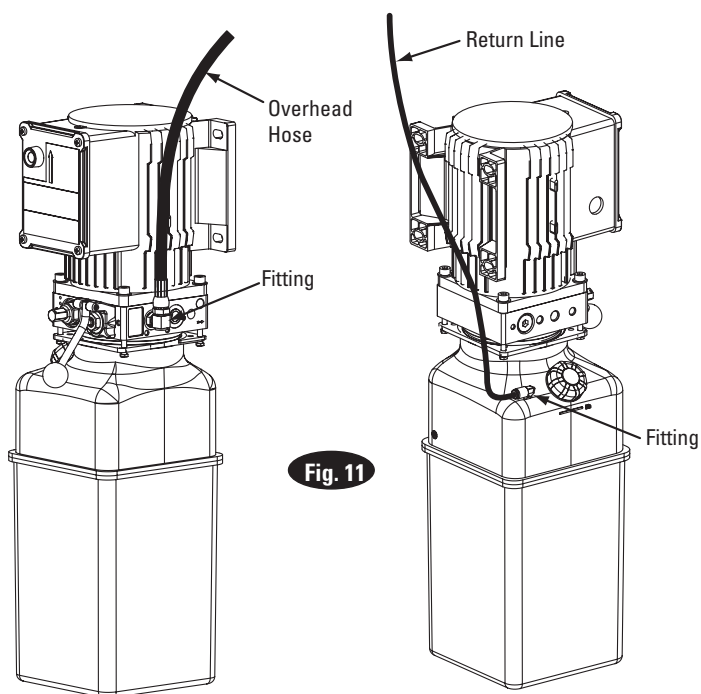

Fig. 11
11. Hoses: Clean adapters and hose. Inspect all threads for damage and hose ends to be sure they are crimped, Fig. 11. Install hose and hose clamps, Fig. 12 & Fig. 16a.